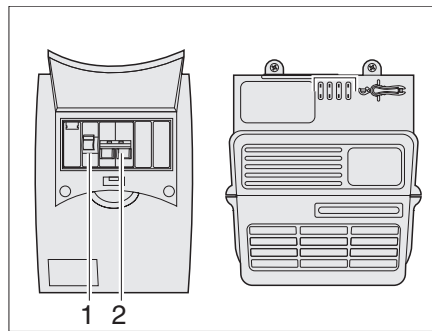

Fig. 98 230-V fuse box
The main fuse (Fig. 98,2) protects the 240 V input current with a max. of 10 A. In addition, a residual-current circuit-breaker (Fig. 98,1) is located in the fuse box.
- Switch the 240 V safety cut-out (see Fig. 98) and the main switch battery (see Fig. 92,9) on and off briefly in order to interrupt the current flow.